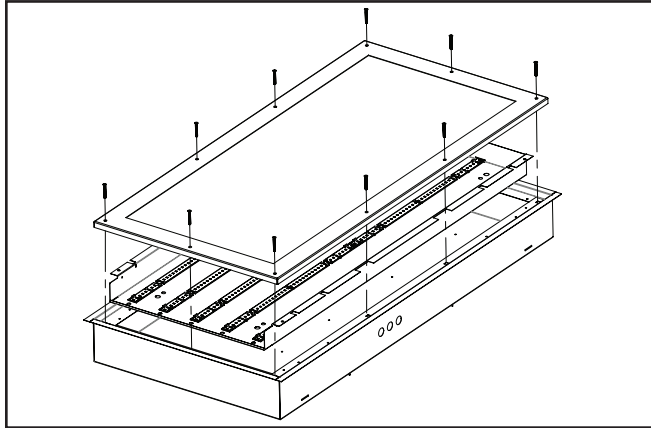
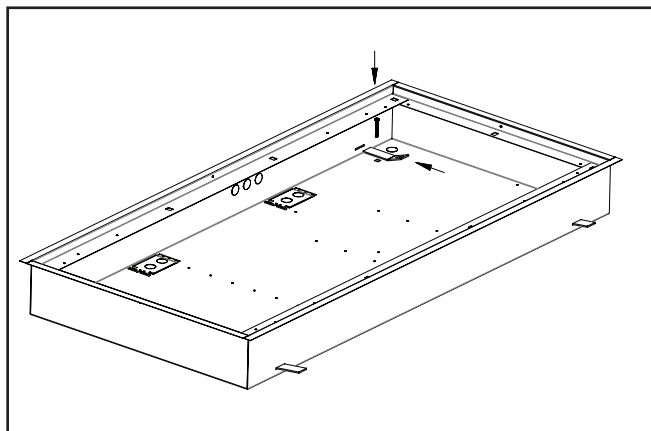
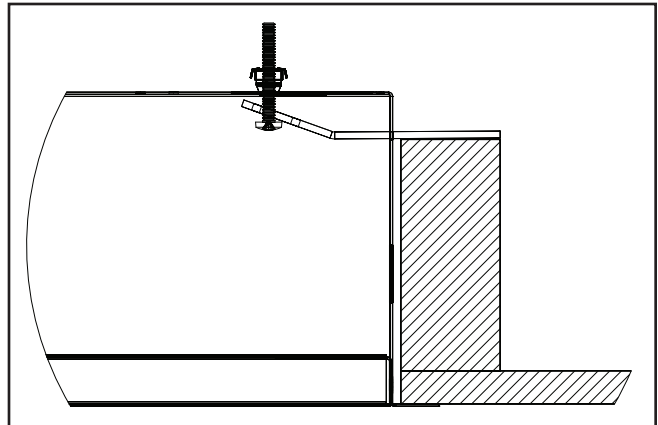

Figure 1.
Figure 2.
Figure 3.
Install the mounting brackets by removing the door and the LED board plate (FIG. 1). Insert cage nuts in the back of the housing (4 corners). Insert the fixture in the sheetrock cut-out. From inside the fixture, slide the (4) brackets through the slots on the sides of the fixture. Make sure the brackets are resting on the ceiling structure (FIG. 3). Secure the brackets with screws through cage nuts in housing (FIG. 2 and 2.1).